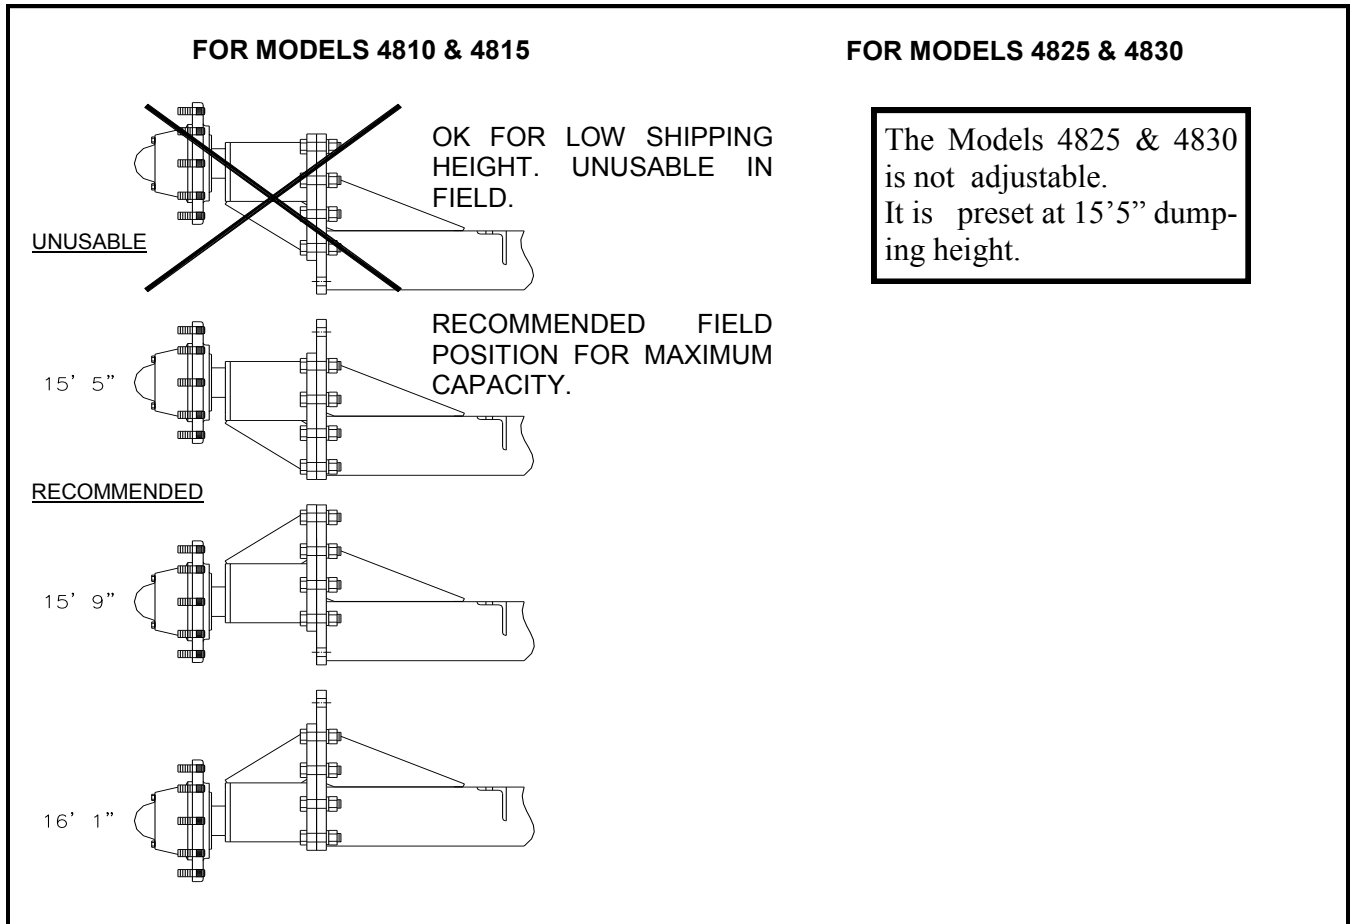

FIGURE 5 (Dumping Heights for 4810, 4815, 4825 and 4830 dump carts)
Check to be sure the axle is installed correctly for the tongue position you have chosen. Refer to Figure 5, Page 5. The axle is designed to be 2" out of center to provide some tongue weight for towing stability. Make sure the axle is attached toward the REAR of the frame and away from the tongue. If it is not in the desired position, remove the 5/8 capscrews and reinstall in the correct position.
Install the hub and spindle units. They can be placed in four (4) different positions in order to reach the maximum dumping height required. Refer to figure 5. Install the sixteen (16) 1" x 3.5" G8 capscrews provided. Torque to 680 ft. lbs. When selecting a spindle position, keep in mind that the cart is more stable when the center of gravity is lower. Also a shorter cart height will be less likely to hit trees or other overhead structures during transport.